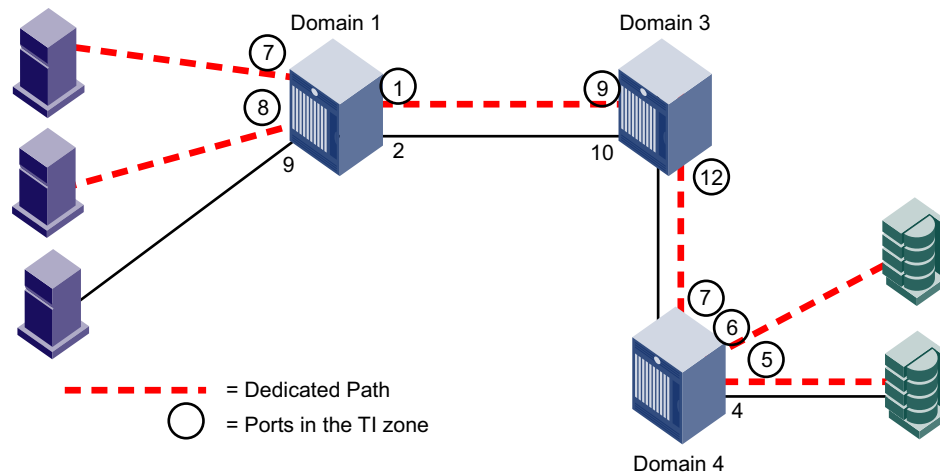

FIGURE 36 Traffic Isolation zone creating a dedicated path through the fabric
Figure 36 shows a fabric with a TI zone consisting of the following:
In Figure 36, all traffic entering Domain 1 from N_Ports 7 and 8 is routed through E_Port 1. Similarly, traffic entering Domain 3 from E_Port 9 is routed to E_Port 12, and traffic entering Domain 4 from E_Port 7 is routed to the devices through N_Ports 5 and 6. Traffic coming from other ports in Domain 1 would *not* use E_Port 1, but would use E_Port 2 instead.
For example, in Figure 36 on page 272, if the dedicated ISL between Domain 1 and Domain 3 goes offline, then the following occurs, depending on the failover option:
- This feature is intended for use in simple linear fabric configurations, such as that shown in Figure 36 on page 272.